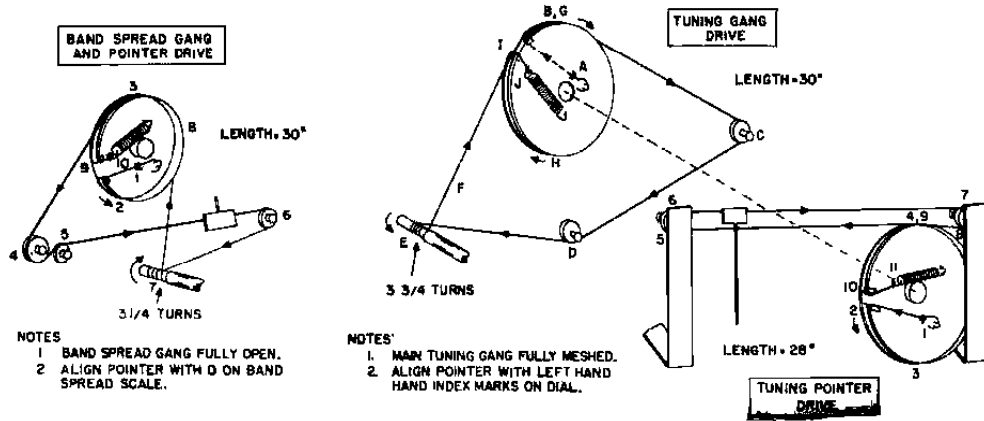

FIG. 3 DIAL CORD STRINGING DIAGRAMS
**RESTRINGING DIAL CORD** - The dial drive system of the S-72 consists of three separate string drives (1) **BAND SPREAD** gang and pointer drive (2) **TUNING** gang drive and (3) **TUNING** pointer drive. Refer to Fig. 3 for the dial stringing diagrams.